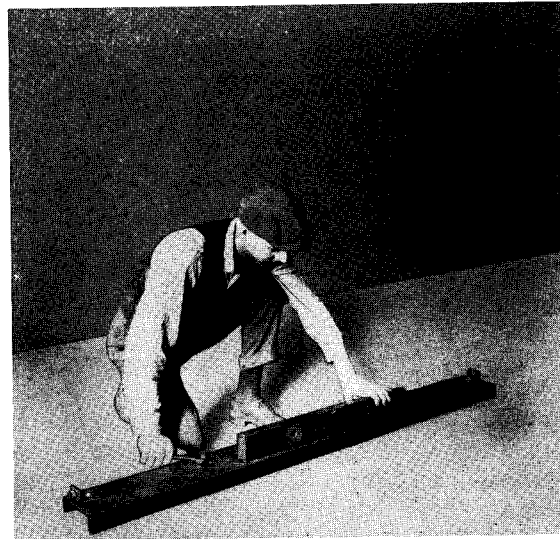

Fig. 12—Channel Iron Base should be properly leveled and securely bolted before grouting.
After the channel has been trued, leveled and bolted down securely as shown in Fig. 12, the ends of the channel should be plugged with a mixture of fairly dry mortar, then dammed with boards or bricks as shown in Fig. 13. A
- 1—Locate the channels A and AA, leveling and grouting them in as shown in Figs. 12 and 13.